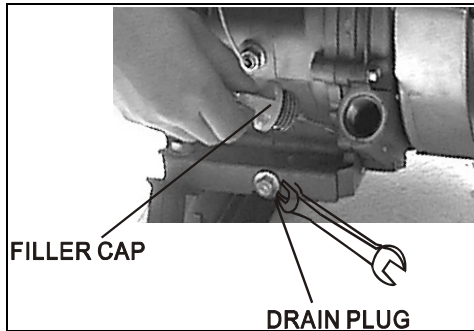

Figure 9- Draining oil
2. Using a 10 mm hex wrench, unscrew the oil drain plug (see figure 9). Allow all the oil to drain from the engine.